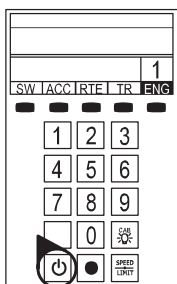

Figure 2. LEGACY start-up
5. **Press the Start Up button on your LEGACY CAB-2 Remote, shown in Figure 2. Then, throttle up and move 'em out!** Your engine sound will start up, and the locomotive-specific touch screen buttons will populate the remote. For more information on operating your locomotive with the LEGACY system, please refer to the LEGACY section of this manual. Additional information is also found in the LEGACY System Manual, available online at [www.lionel.com](http://www.lionel.com).